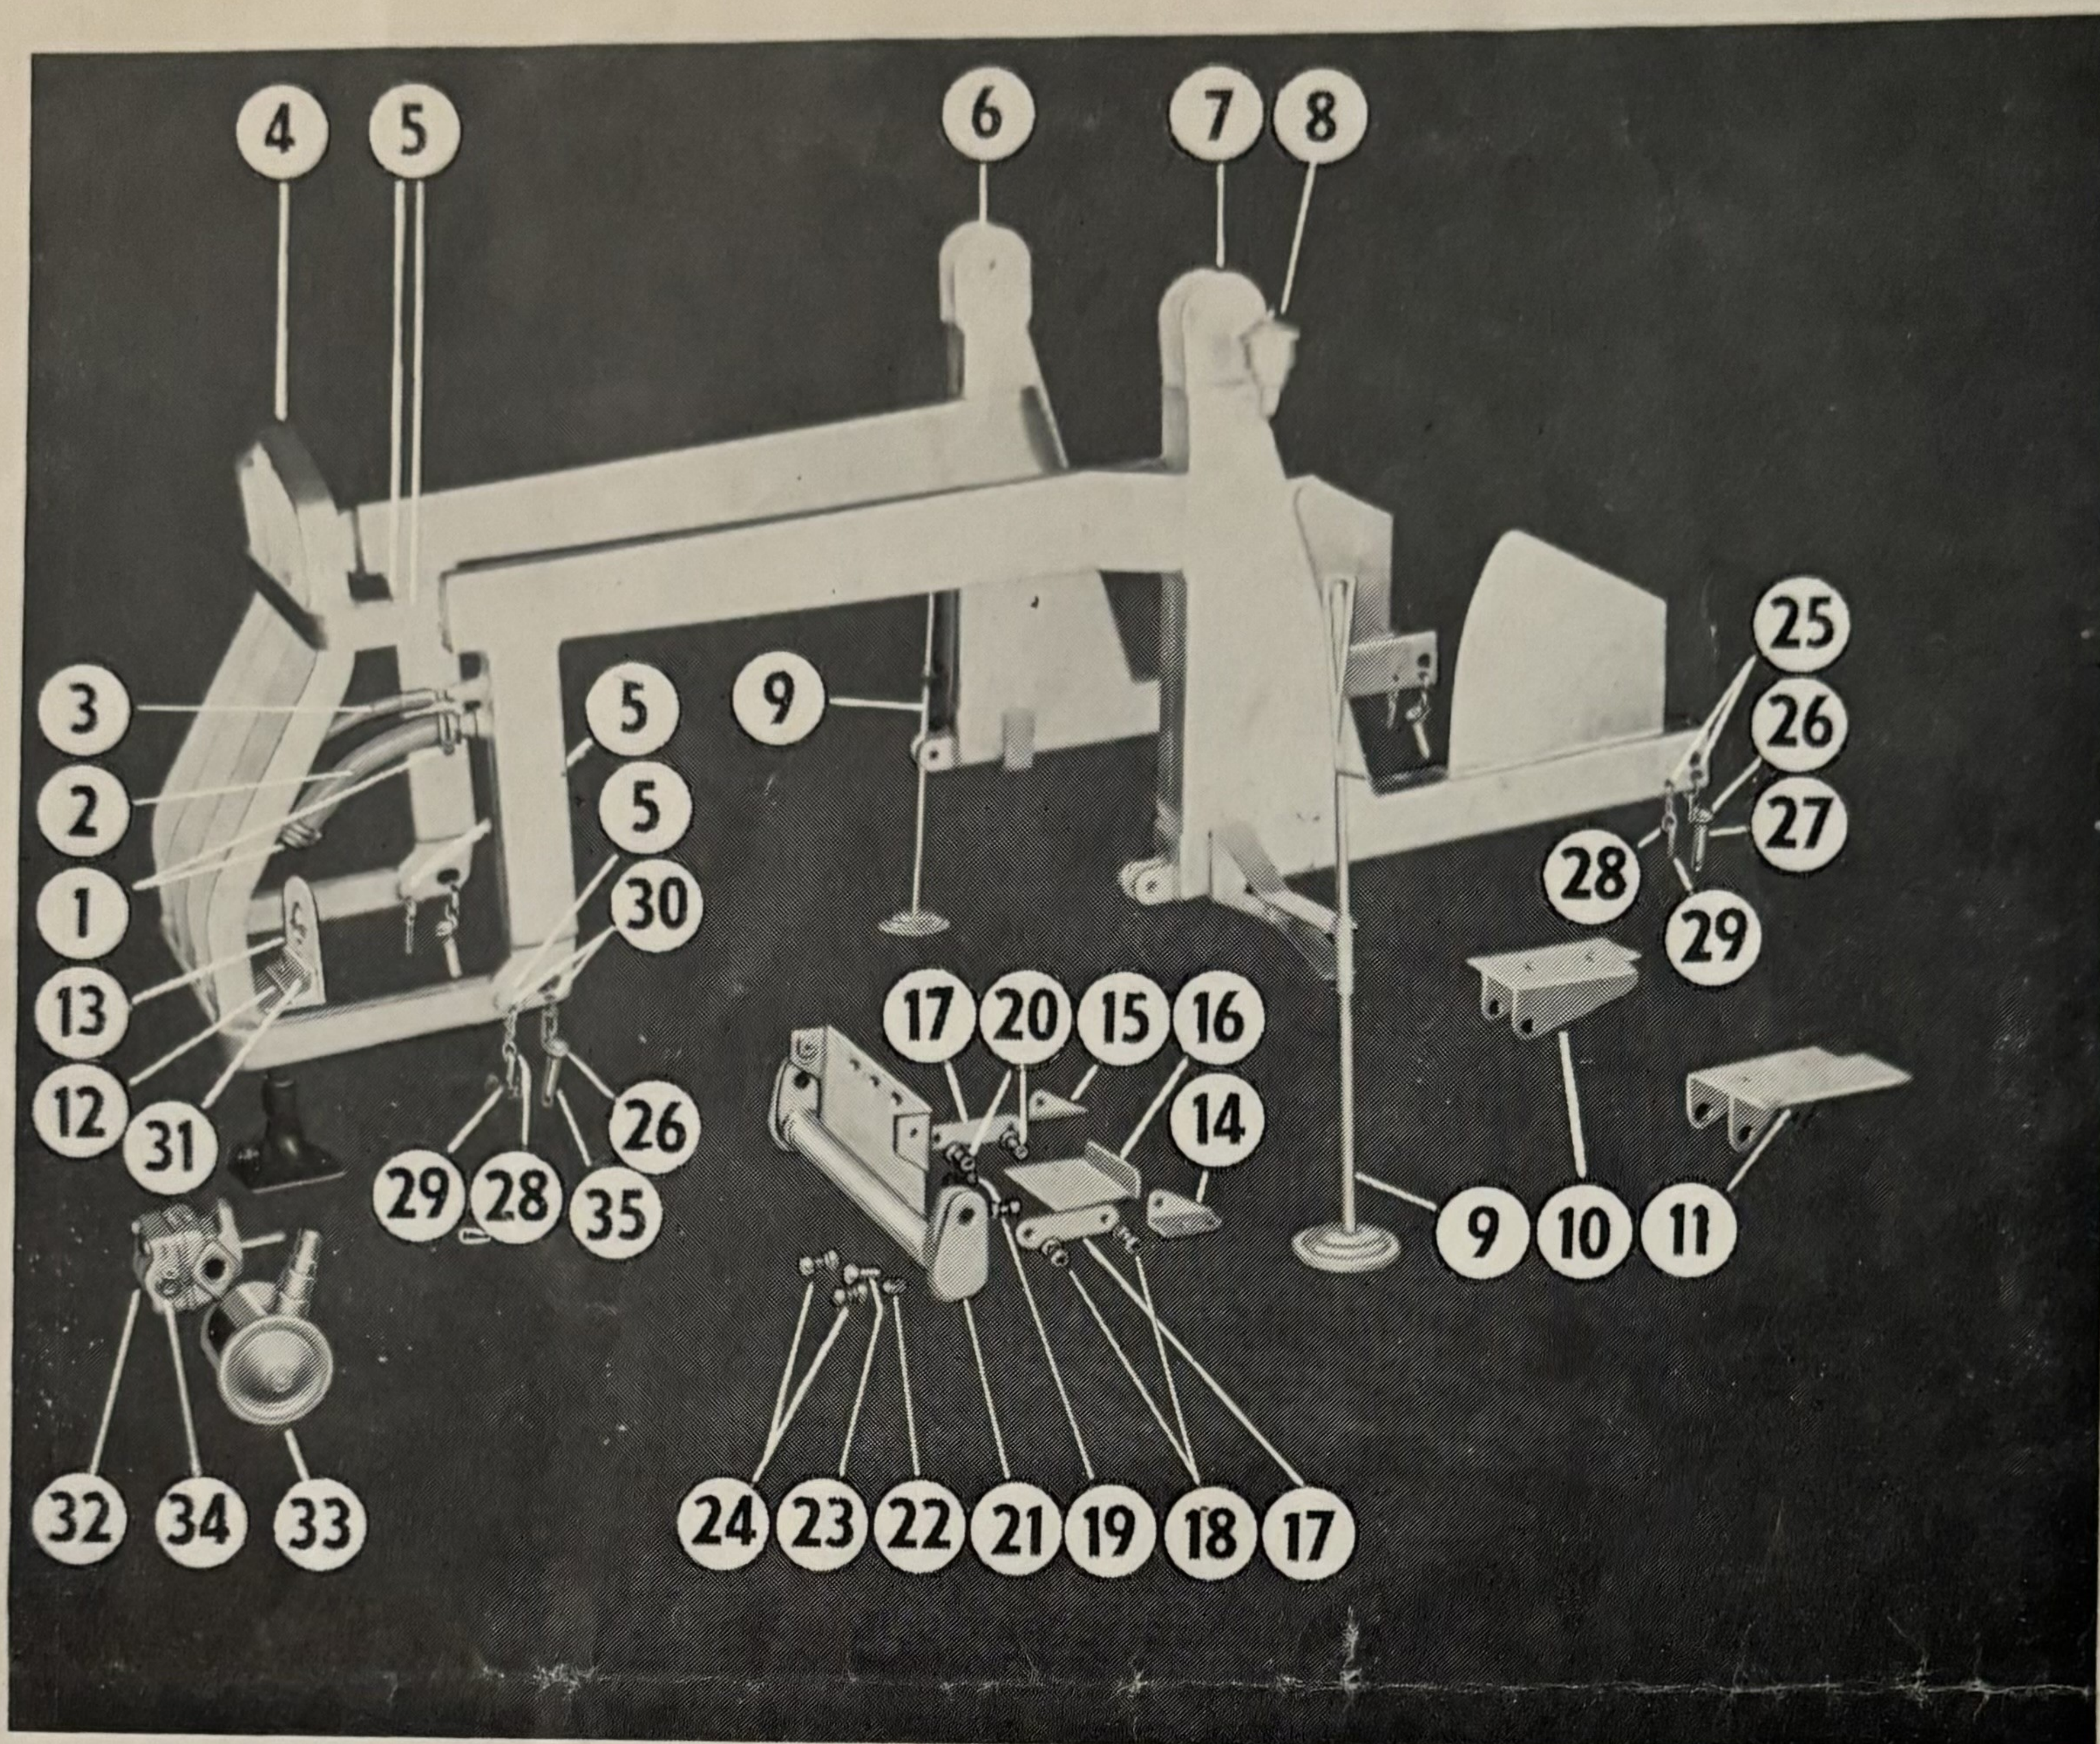
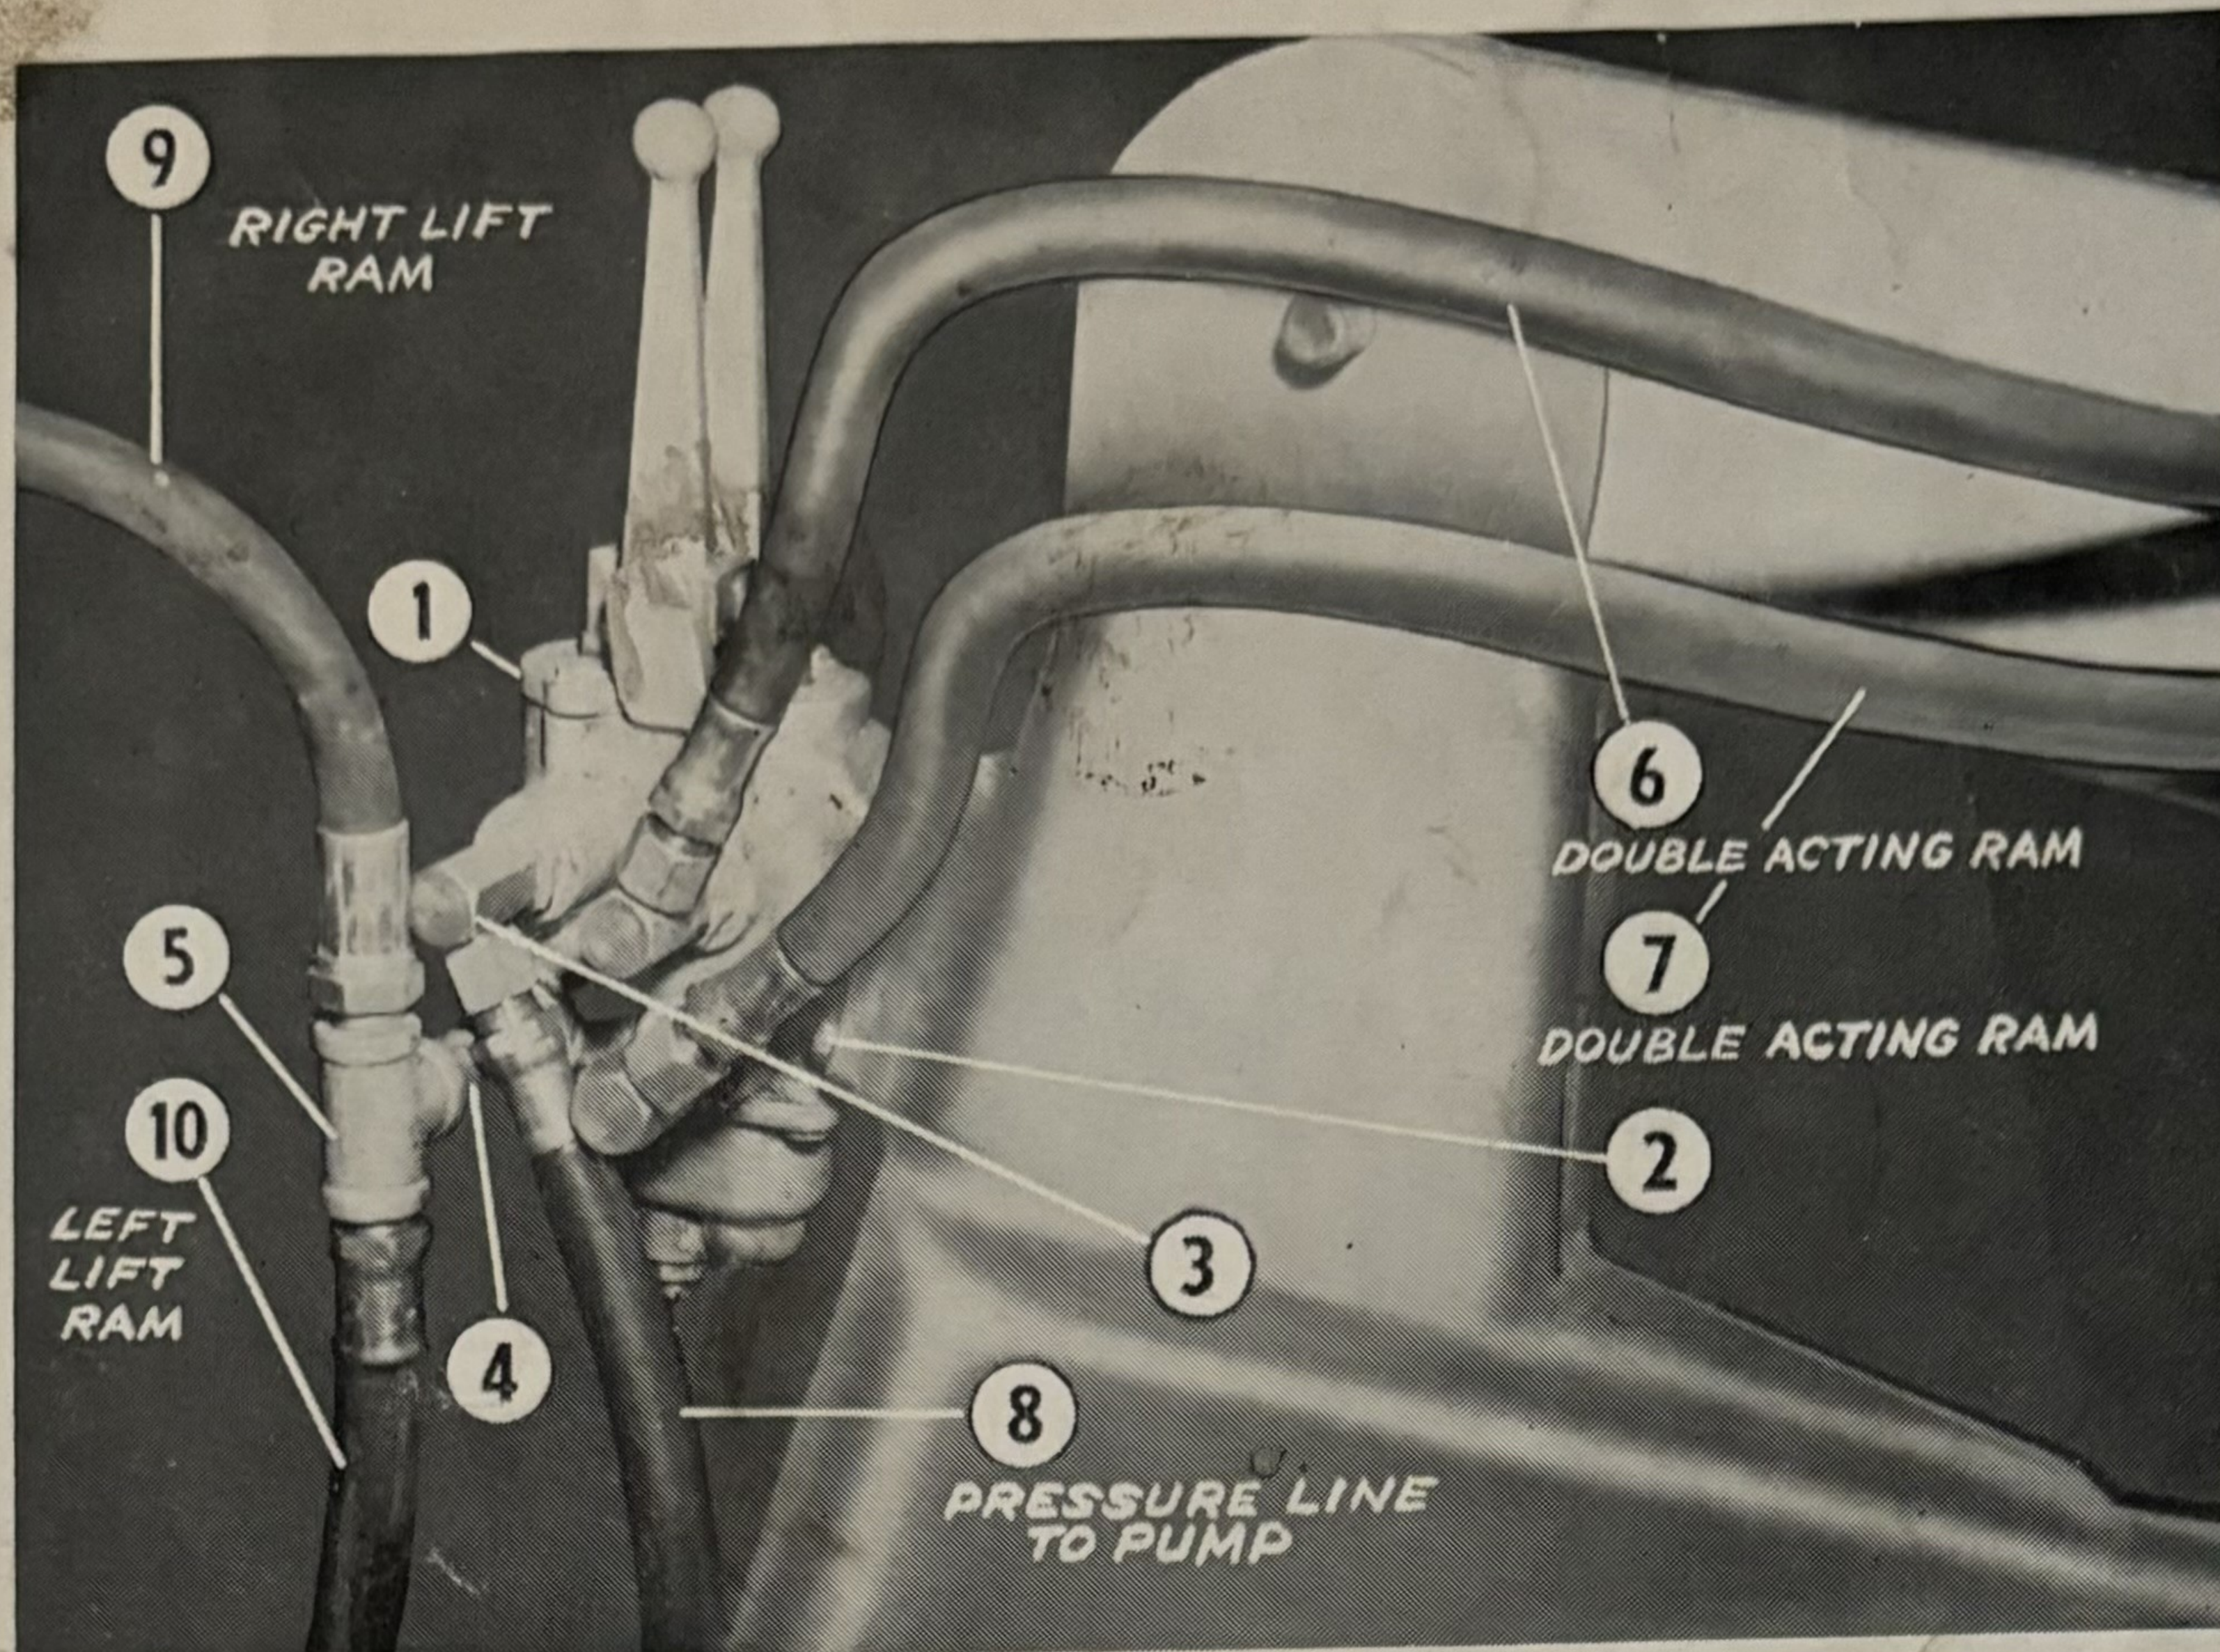

FIGURE 6
FIGURE 8
1. Install R/L lift arms (5 and 6) with two  $\frac{3}{4}$ " x  $4\frac{1}{2}$ " N.F. Hex Hd cap screws (with Zerk fittings) nuts, lock washers (4) and four each spacers (3) to side frames at rear pivot points. See Fig. 6.
2. Install bridge plate (18) to R/L lift arms with six  $\frac{5}{8}$ " x  $3\frac{1}{4}$ " N.F. Hex Hd cap screws, nuts, and lock washers furnished (8).
3. Install basic back (9) to arm pivot points using  $1$ " x  $3\frac{13}{16}$ " pin and  $\frac{1}{4}$ " cotter pins furnished (10).
4. Install double acting ram (11) to bridge plate with  $\frac{3}{4}$ " x  $\frac{1}{8}$ " pin and  $\frac{3}{16}$ " cotter pin furnished (16).
5. Attach lower pivot end of double acting ram (11) to basic back (9) using  $\frac{3}{4}$ " x  $4\frac{1}{2}$ " pin and  $\frac{3}{16}$ " cotter pin furnished (12).
6. Install single acting side rams (14 or 21) to arm pivot points using 2 each  $\frac{3}{4}$ " x  $3\frac{1}{4}$ " pins and  $\frac{3}{16}$ " cotter pin (7).
7. Attach lower pivot point of single acting side rams (14 or 21) to R/L side frames (Fig. 6) using two each  $\frac{3}{4}$ " x  $2\frac{3}{4}$ " pins and  $\frac{3}{16}$ " cotter pins furnished (13).
8. Install  $\frac{1}{2}$ " x 42" hydraulic hose (15) to lower end of double acting ram (11) and lower oil line in left lift arm (5). One  $\frac{1}{2}$ " St. Ell is required in ram nut for hose installation (22).
9. Install  $\frac{1}{2}$ " x 18" hydraulic hose (17) to upper end of double acting ram (11) and upper oil line in left arm (5).
10. **Note** — Hydraulic hose shown (1 and 2) attach to valve. See Fig. 8.
1. Remove shipping cover plate from reservoir and install valve (1) using  $\frac{5}{16}$ " x 1" N. F. Hex Hd cap screws, furnished (2).
3. Install  $\frac{1}{2}$ " x 2" nipple (4) and  $\frac{3}{8}$ " x  $\frac{3}{8}$ " x  $\frac{1}{2}$ " Tee (5) in valve port (marked lift).
5. Install  $\frac{1}{2}$ " x 12" hydraulic hose (8) to valve port (marked pump). Attach other end to  $\frac{1}{2}$ " oil line in left side frame. (See 7) Fig. 6.
6. Install  $\frac{3}{8}$ " x 54" hydraulic hose (9) on one end of  $\frac{3}{8}$ " Tee (5). Attach other end to right lift ram using  $\frac{3}{8}$ " x 90° St. Ell.
7. Install  $\frac{3}{8}$ " x 24" hydraulic hose (10) to other end of  $\frac{3}{8}$ " Tee (5). Attach other end to left lift ram using  $\frac{3}{8}$ " x 90° St. Ell.
**Note** — See installation instructions on pressure line in this manual. Fig. 8.